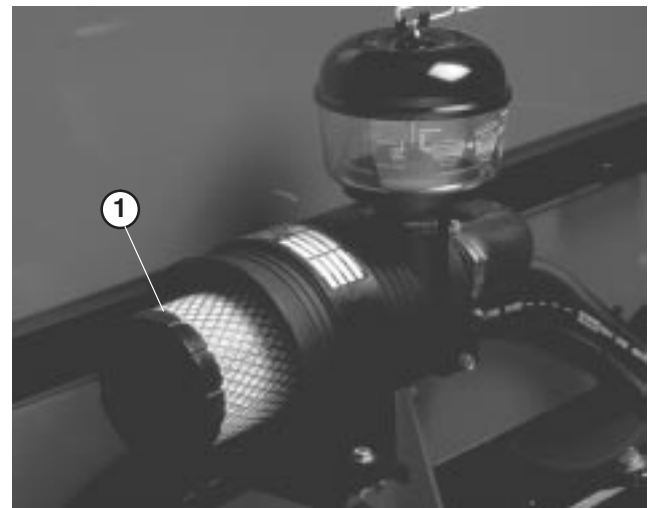

Figure 49
2. Gently slide filter element out of air cleaner body (Fig. 49) to reduce the amount of dust dislodged. Avoid knocking filter against air cleaner body.